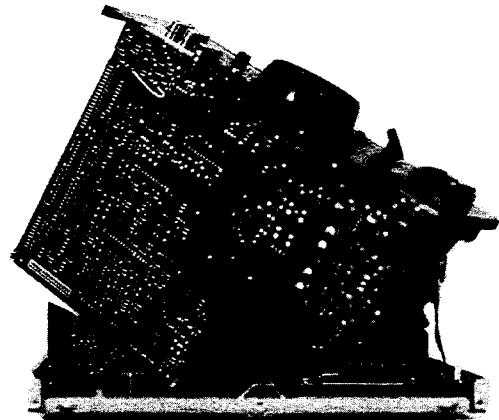

Fig. 3
4. Confirm the main P.C. board as shown in the Fig.3